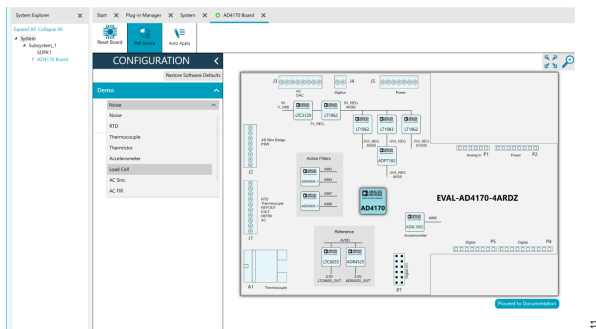

Figure 11. AD4170 Board Tab
2. Select the **AD4170 Board** tab and in the **Configuration** view, select **Load Cell** from the dropdown list and click **Configure** as shown in Figure 11.